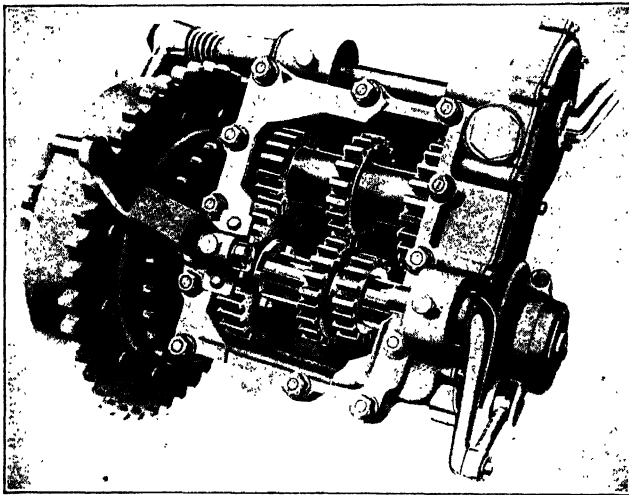

Fig. 47. Harley-Davidson Three-Speed Transmission
*Three-Speed Gear.* Fig. 47 shows a three-speed gear fitted to the Harley-Davidson, operating on the same principle as the two-speed gears just mentioned. At the extreme left is shown the clutch and the large and small sprockets. The lower shaft to the gearset is